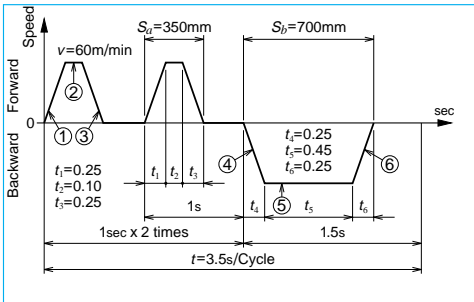

Fig. II-15-2
③ Checking basic safety
(1) Checking allowable axial load
① Calculation of allowable axial load (See Fig. II-15-2.)
(3) Checking life expectation (See Fig. II-15-2.)